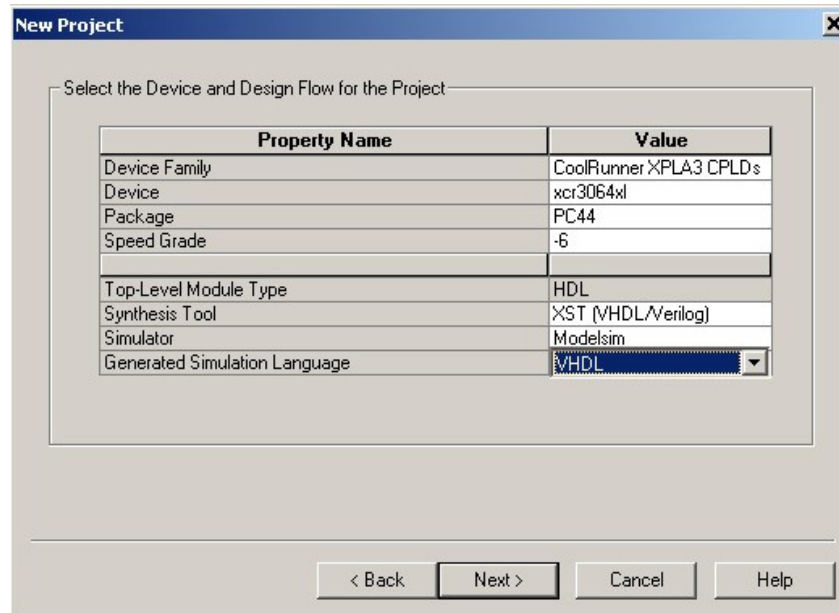

Figure 5; Creation of a project.
2. Create counter project; In the Project Navigator, select **File** → **New Project** and follow the same procedure as in previous labs. Setup project options as in figure 5. Click **OK**.
4. Components instantiations; Once the components are declared, they must be instantiated. This means the connections between components and/or signals inside the system must be declared. The declaration area for components instantiations is under the comment – *Components Instantiations* – in the disp_controller.vhd file. Use the inverter instantiation as an example. Use the block diagram in figure 5 as a map to complete the connections.